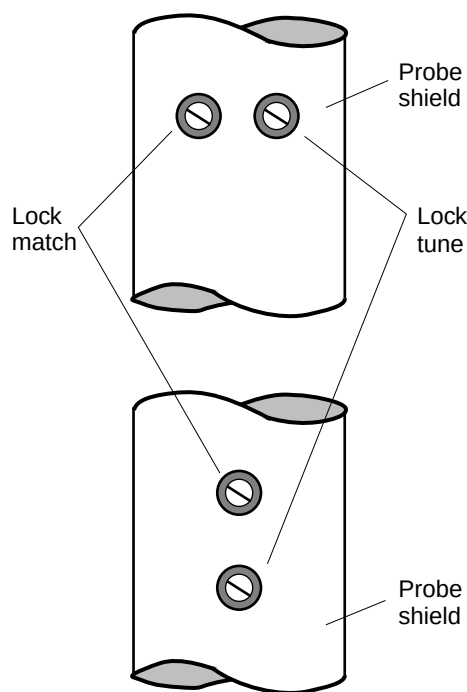

Figure 22. Lock Tune and Match Capacitors Locations
The lock circuit of the probe is factory-tuned, and in normal use will not require tuning. Follow the procedure below only if you have reason to believe the lock sensitivity has degraded or after you have intentionally detuned the lock circuit. To gain access to the lock tuning capacitors, the probe must be removed from the magnet *after the sample is ejected* (see Figure 22).
6. Tune the lock circuit to the optimum frequency by repeatedly tuning the two variable capacitors, accessed through two small holes in the outer shield of the probe, as shown in **Figure 22**.